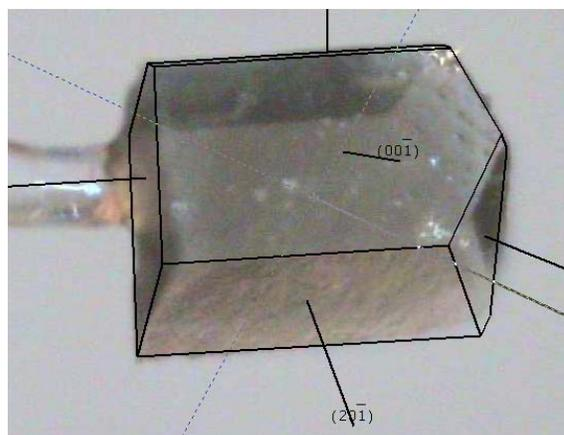

Figure B.13 – Face (1 3 -2) removed
2. Right-click and select **Remove**. The face is removed from the list and the model is improved (Figures B.13 and B.13).